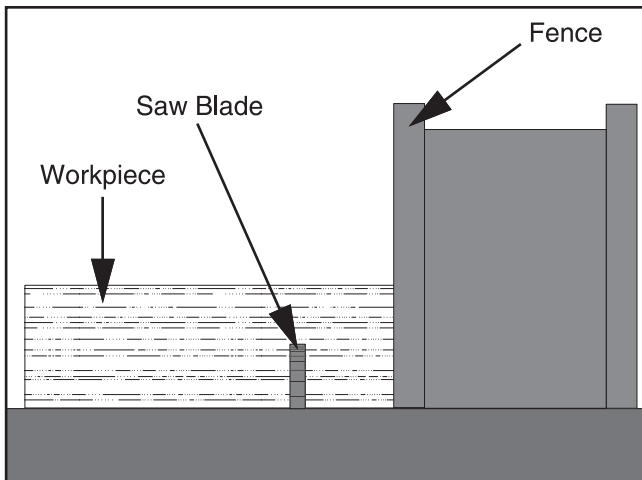

Figure 51. Rabbet cutting with a standard blade.
4. Adjust the fence so the blade is aligned with the inside of your rabbet channel as shown in Figure 51.